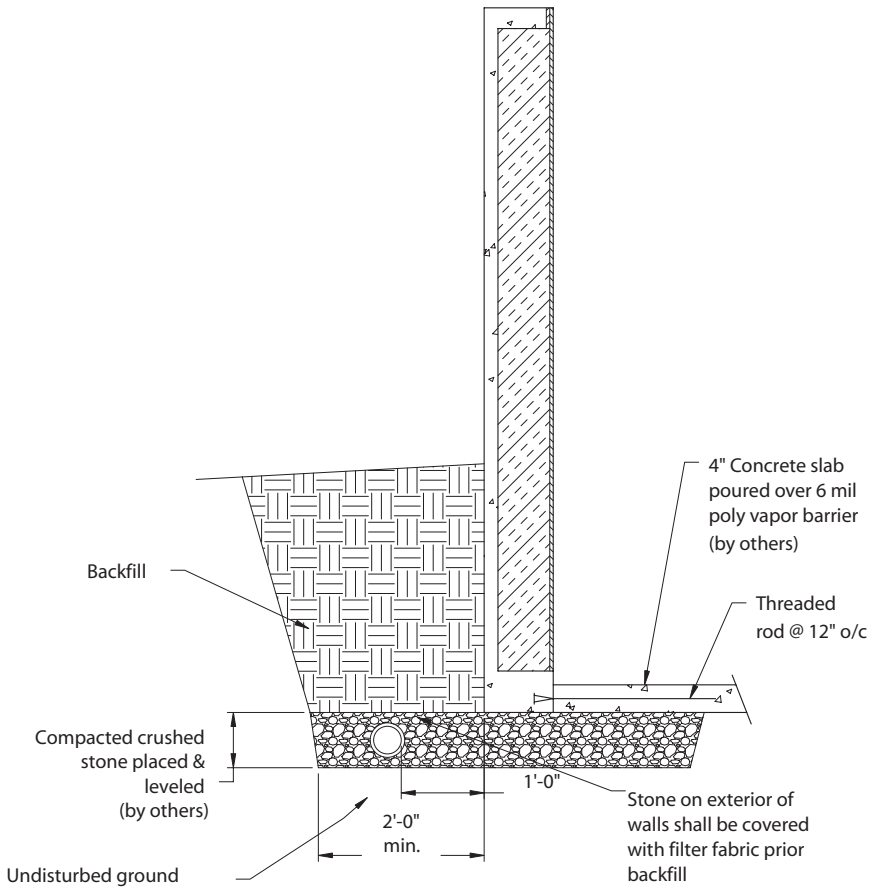

Figure 4
c) Wall/Slab Connections (see figure 4, Pg. 7)